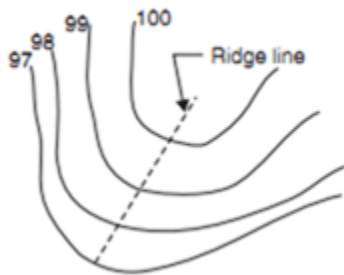

Fig. 2
8. Contour lines with U-shape with convexity towards lower ground indicate ridge (Fig. 2).